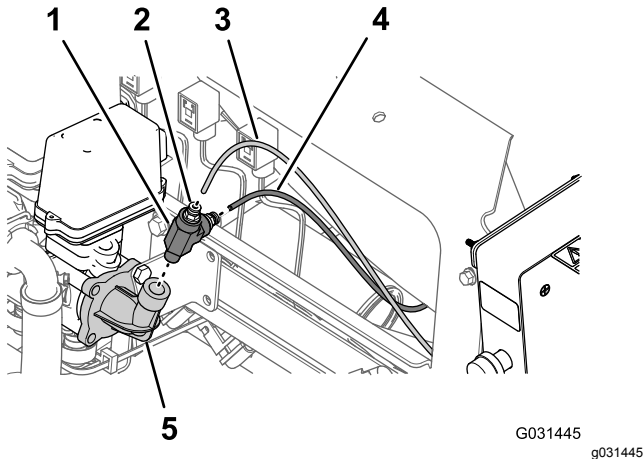

Figure 17
1. At the 90° elbow at the right side of the pressure-control valve for the hose reel, press in the locking collar for the tube coupler and remove the pressure-sense tube for the pressure gauge of the hose reel (Figure 17).
2. Press in the locking collar for the tube coupler and remove the pressure-sense tube for the pressure gauge in the dash of the machine (Figure 17).
3. Remove the T-fitting from the 90° elbow for the pressure-control valve (Figure 17).